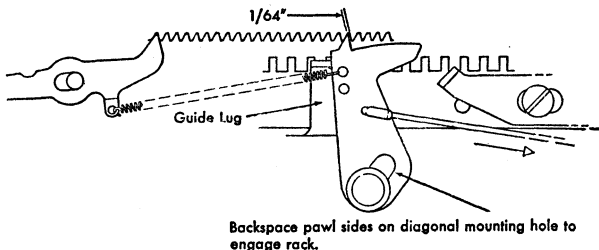

Figure 55. Backspace Guide Lug Adjustment
3. BACKSPACE PAWL GUIDE LUG. Form this to the left or right so as to guide the pawl into the escapement rack with about $1/64''$ clearance between the working side of a tooth on the pawl and the escapement rack tooth (Figure 55).